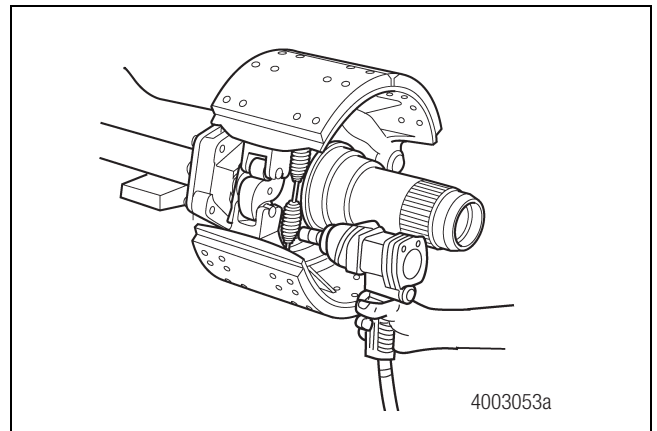

Figure 17.2
4. Install and tighten the brake spider-to-housing bolts to the specified torque. Figure 17.2.